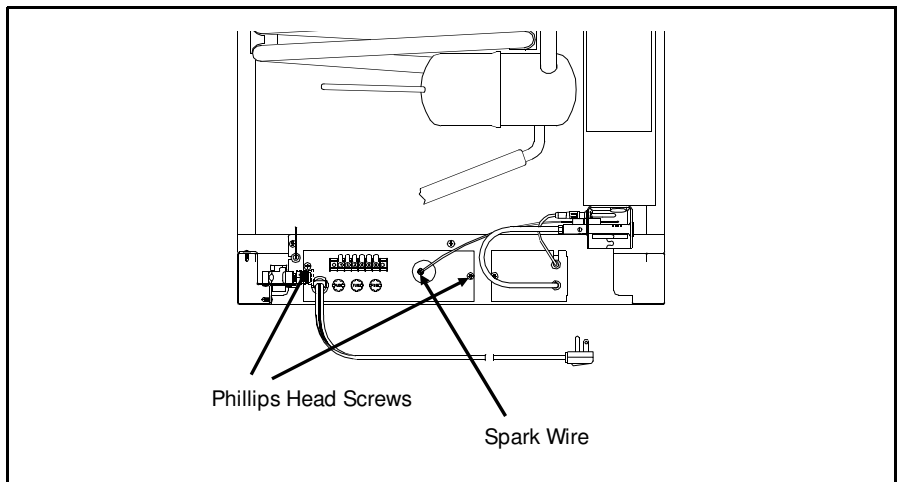

Figure 3.21 Relighter Access
- Refer to Figure 3.21. Disconnect the spark wire. To gain access to the relighter, remove the 2 phillips head screws.